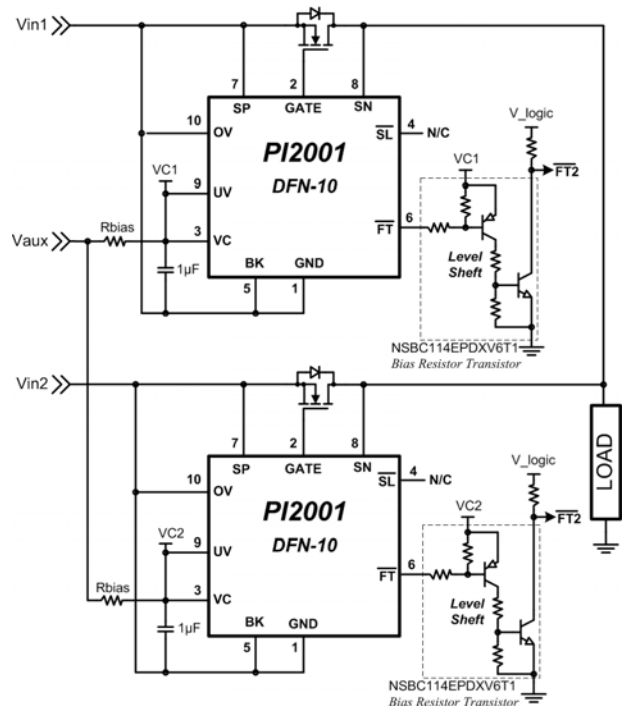

Figure 16: PI2001 in floating application: example 2
1. A single PI2001 with suitable external MOSFET for each redundant 12V power source should be used, configured in a high-side floating configuration as shown in the circuit schematic in Figure 16. The controller is floated on Vin by connecting the controller ground pin to the input voltage Vin.
7. \overline{FT} pin: The \overline{FT} pin output is referenced to the PI2001 GND pin which is connected to Vin. A level shift circuit can be added to make the \overline{FT} pin output referenced to the system ground. The recommended level shift circuit is shown in Figure 16, The level shift circuit uses a Dual Bias Resistor Transistor circuit which is available as a small device that contains two transistors and their bias resistors, part number NSBC114EPDXV6T1.